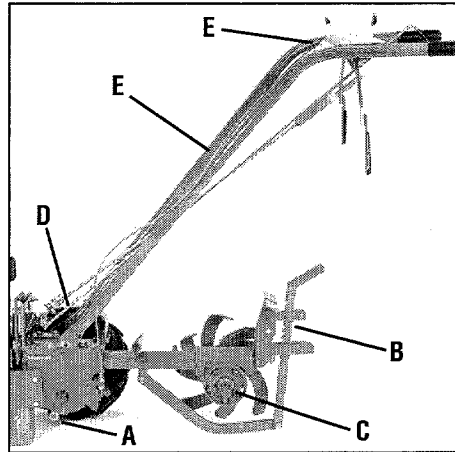

Figure 5-1
Proper lubrication of the tiller is an essential part of your maintenance program. After every 10 operating hours, oil or grease the lubrication points shown in Figures 5-1 and 5-2 and described below.
- Remove wheels, clean wheel shaft (A, Fig. 5-1) and apply thin coating of grease to shaft.
- Grease back, front and sides of depth regulator lever (B, Fig. 5-1).
- Remove tines, clean tine shafts (C, Fig. 5-1) and inspect for rust, rough spots or burrs (especially around holes). File or sand smooth and coat ends of shaft with grease.
- Oil the threads on the handlebar height adjustment flange screw (D, Fig. 5-1).
- Oil the outer casings of the engine throttle cable and the wheel gear cable (E, Fig. 5-1). Allow oil to soak in and then wipe off any excess.